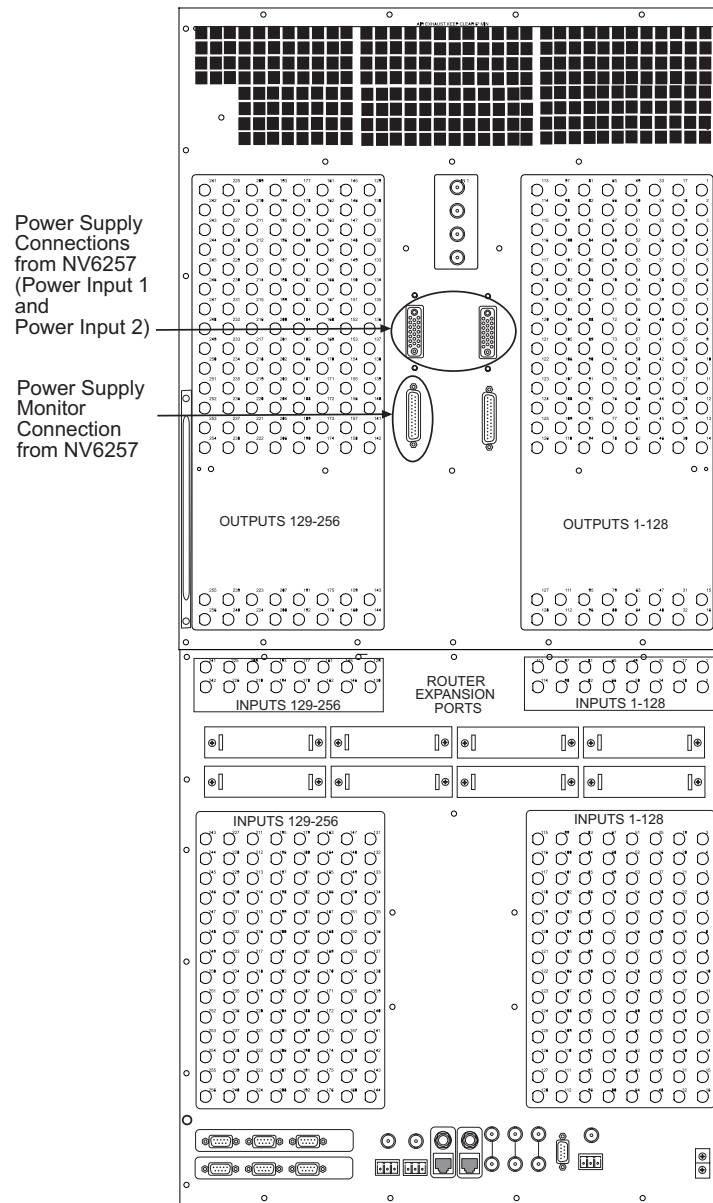

Figure 3-2. Power Supply Connections and Power Supply Monitor Connection on Router (Rear View)
- 4 Facing the rear of the **router**, connect the other end of the power supply cable to 'Power Input 1', as shown in Figure 3-2 on page 29.
- 6 Facing the rear of the **router**, connect the other end of the power supply cable to 'Power Input 2', as shown in Figure 3-2.
- 8 Facing the rear of the **router**, connect the other end of the monitor cable to 'Power Supply Monitor', as shown in Figure 3-2.